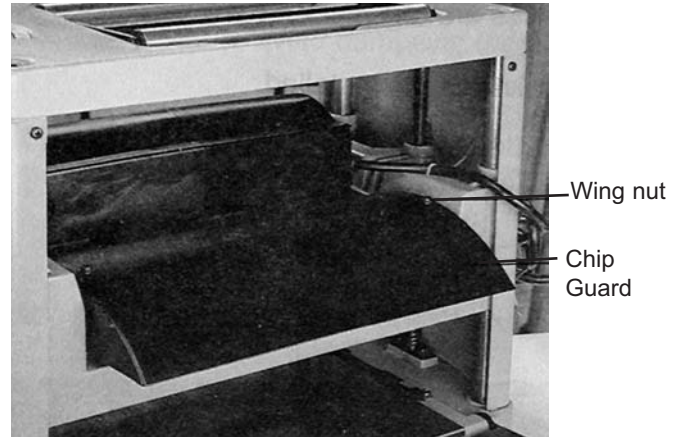

FIGURE 3
1. Remove the chip guard by removing the wing nuts as shown in Fig.3.
2. Loosen the lock bar (B) and knife by turning the lock screws (A) clockwise. The knives are spring loaded, and will push out when the assembly is loosened.
3. Take out the knife (C), and then the knife lock bar (B). Be careful, these are double-sided knives and 1 edge may still be very sharp.